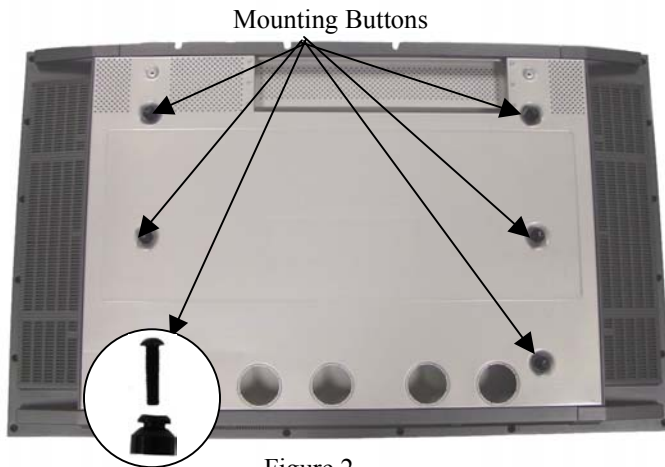

Figure 2
1. Attach six mounting buttons to display using six M8 x 35mm button head cap screws provided (see Figure 2).